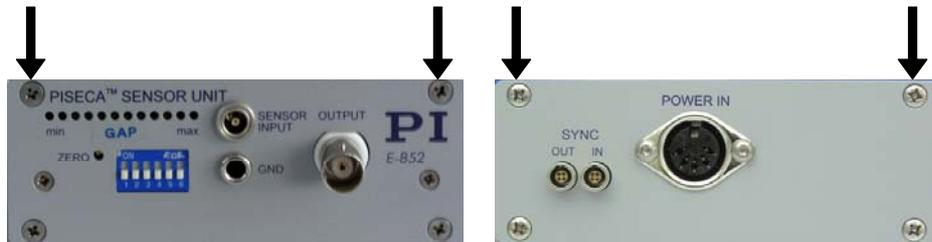

Fig. 11: E-852.10 front and rear panel with attaching screws indicated
2. On the front and rear panel, remove the 4 screws that attach the cover to the case (see Fig. 11). Remove the cover of the E-852.10